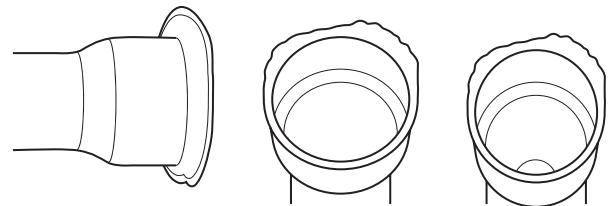

Fig. 16
**Cause:** The ram arm was too far back from the "START" position or the tubing was pushed past the beginning of the chamfer, causing the flaring mandrel to overtravel and deform the tubing. See Fig. 16.